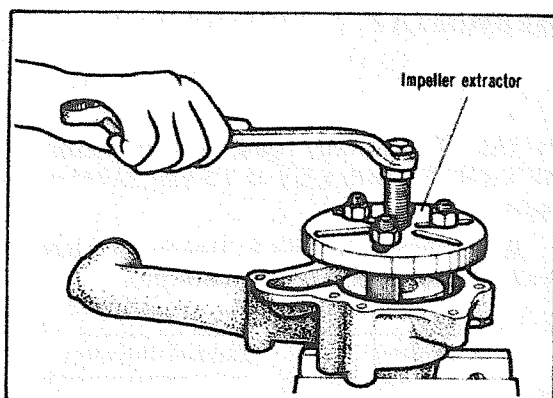

Fig. 3 Disassembling Water Pump (1)
3. Heat the pump housing to a temperature of 60° to 80°C (140° to 176°F) for one to three minutes, and using a ram press force out the impeller shaft assembly from the pulley side. (Figs. 3 and 4)